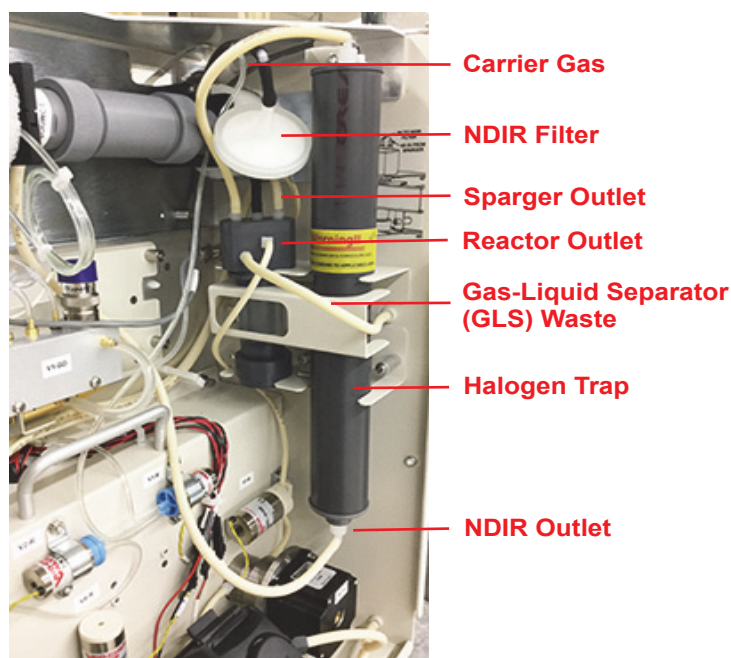

Figure 51: The Gas-Liquid Separator
13. Reconnect the tubing to the correct barbs (Figure 51).